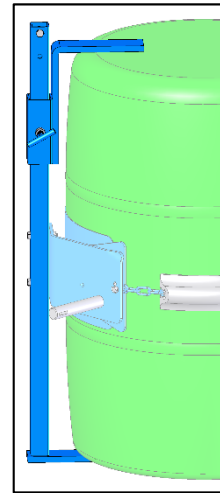

Figure 2.1
- Bracket Assembly Kit 4556-P** is required to handle a RIMLESS plastic drum (Figure 2.1), and is also recommended for a fiber drum. The Bracket adjusts for a 31" to 39" (79 to 99 cm) tall drum. You can also handle a rimmed drum with the Bracket installed.